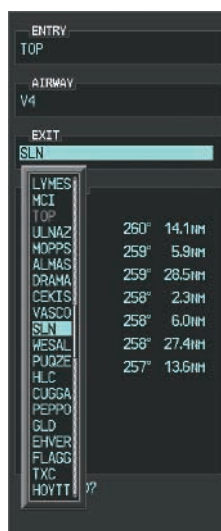

Figure 5-118 List of Available Exits for V4
h) Press the **ENT** Key. The list of available exits for V4 is now displayed as in Figure 5-118.
- i) If necessary, turn either **FMS** Knob to select the desired exit. In this case Salina VOR (SLN) is selected as in Figure 5-118.